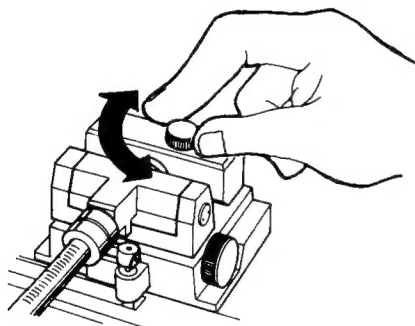

Fig. 4
- 3) While lightly supporting the front of the head shell rotate the adjustment knob for the main weight until zero balance is achieved. See Fig. 4 below.